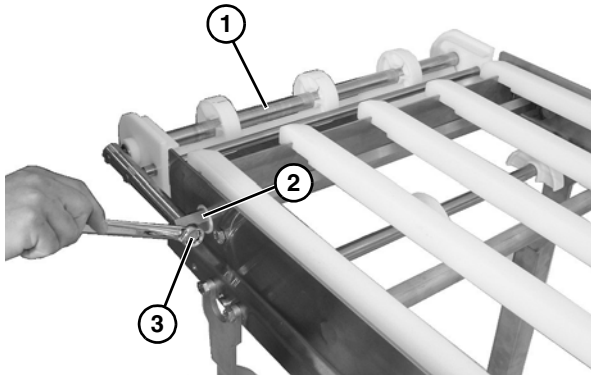

Figure 22
1. Place the idler tail assembly (Figure 22, item 1) against the holes in the tip up hex shaft assembly (Figure 22, item 2) and secure with a bolt (Figure 22, item 3) on each side.